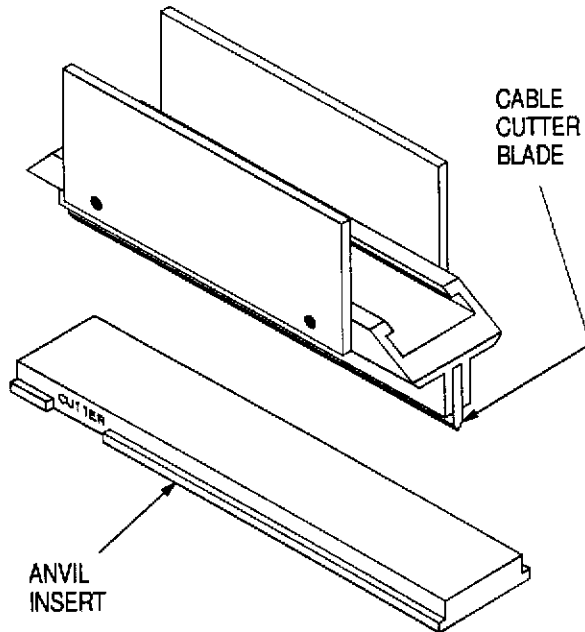

Figure 1
### 2. DESCRIPTION (Figure 1)
- Updated Figures 1, 3, and 4